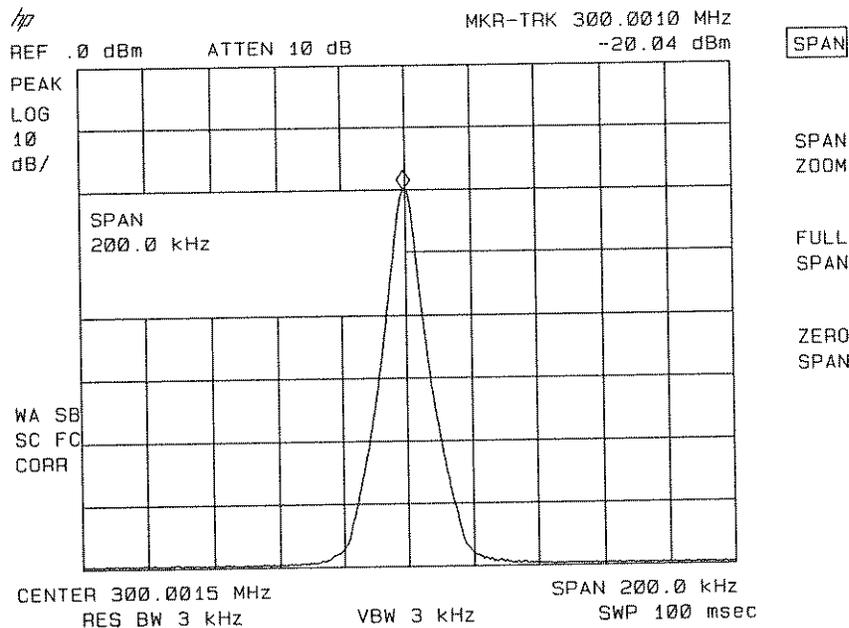

Figure 6-7. After Zooming In on the Signal
3. Press **SPAN**, 200 **kHz**. The span decreases in steps as automatic zoom is completed. You can also use the knob or step keys to decrease the span. See Figure 6-7.